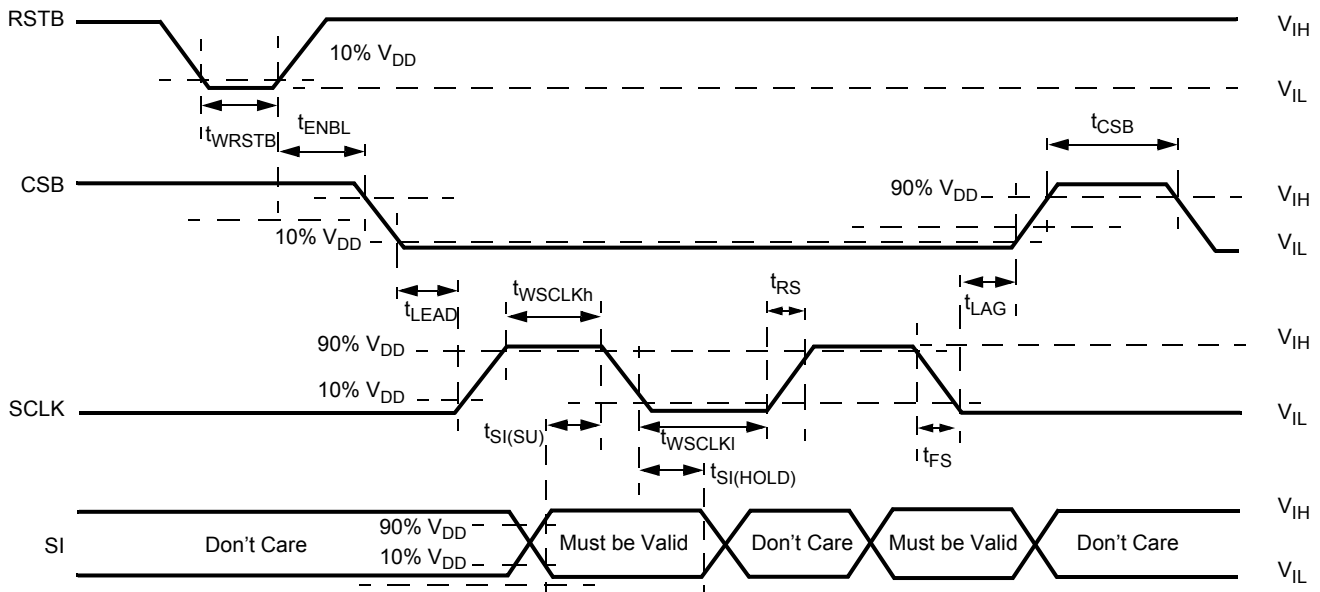
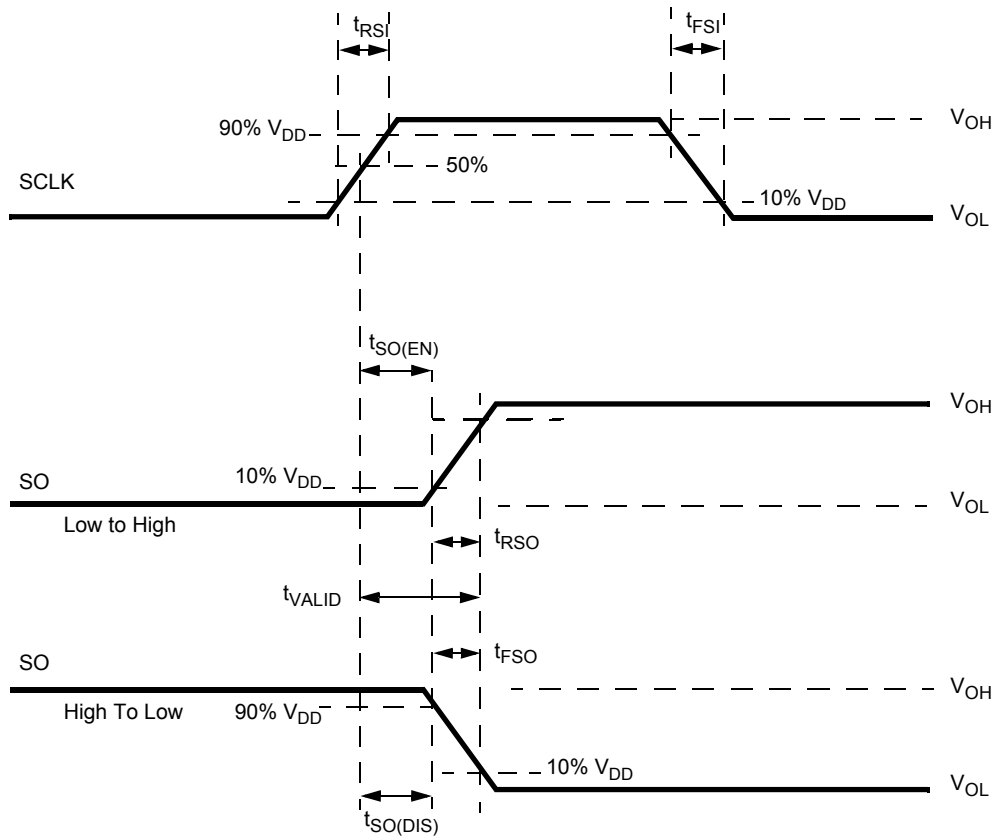

Figure 7. Timing Requirements During SPI Communication
Figure 8. Timing Diagram for Serial Output (SO) Data Communication
edge of CSB. The SO output driver is enabled when CSB is logic [0]. CSB should transition from a logic [1] to a logic [0] state only when SCLK is at logic [0]. CSB is internally pulled up to  $V_{DD}$  through  $I_{UP}$ . (see Figure 7 and Figure 8).
Serial input (SI) data bits are shifted in at this pin. SI data is read on the falling edge of SCLK. 16-bit data packages are required on the SI pin (see Figure 7), starting with bit D15 (MSB) and ending with D0 (LSB). All the internal device registers are addressed and controlled by a 4-bit address (D9-D12) described in Table 10. Register addresses and function attribution are described in Table 11. The SI pin is internally connected to a pull-down current source,  $I_{DWN}$ .